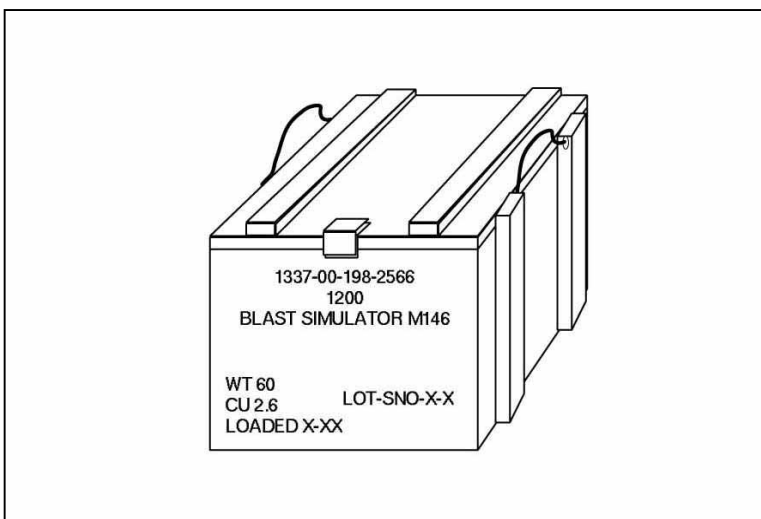

Figure 5-2-6: Blast Simulator Wooden Overpack
22. **Description.** The blast simulator is 1.6 cm long with two 45 cm wires connected to it. It is an explosive mixture made up of potassium perchlorate, aluminium and sulphur (see Figure 5-2-6).